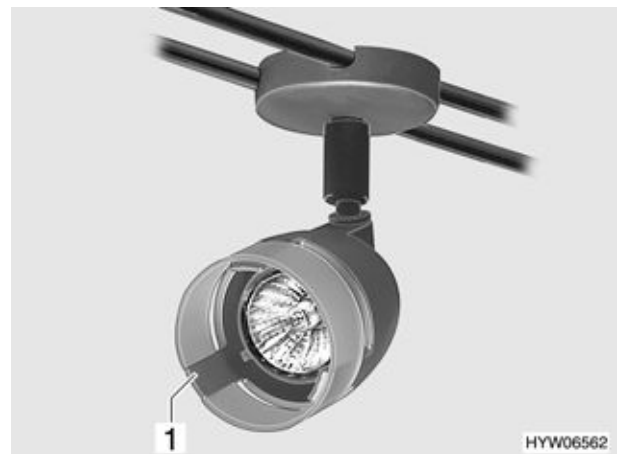

Fig. 181 Spotlight (variant 3)
- Press brackets (Fig. 181,1) inwards.